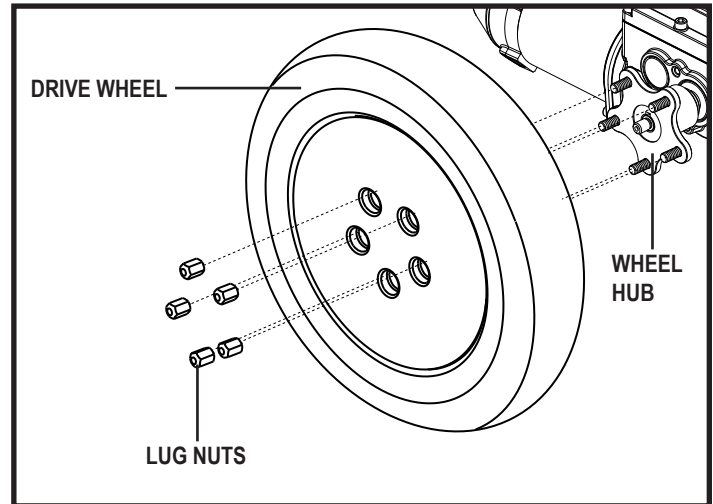

Figure 23. Drive Wheel Removal
4. Remove the five (5) lug nuts from the wheel hub. See figure 23.
8. Reinstall the five (5) lug nuts onto the wheel hub and tighten. See figure 23.